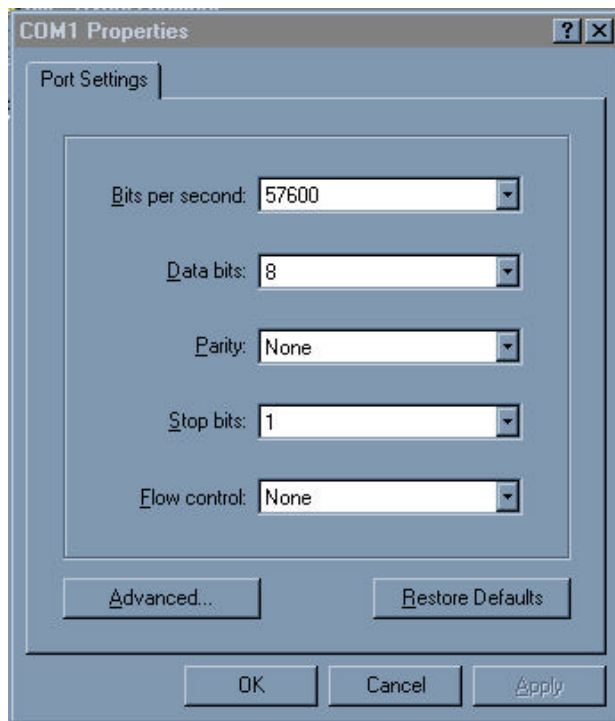

Figure 4-5. HyperTerminal Port Settings Box
4. You will be prompted for the selected port settings. Enter the settings shown in Figure 4-5. Then click OK.